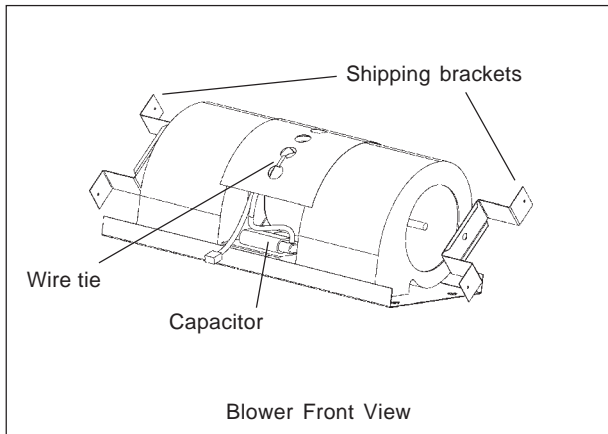
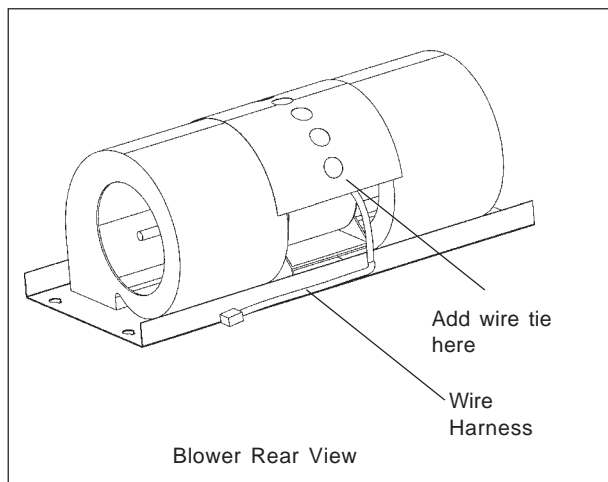

Figure 12a
Figure 12b
2. Cut wire tie shown in Figure 12a. Locate the wire harness with the Molex 6-pin connector. Route wire harness out rear of blower, as shown in Figure 12b. below.
4. Attach wire harness with Molex 6-pin connector to housing as shown in Figure 12b with wire tie (supplied).